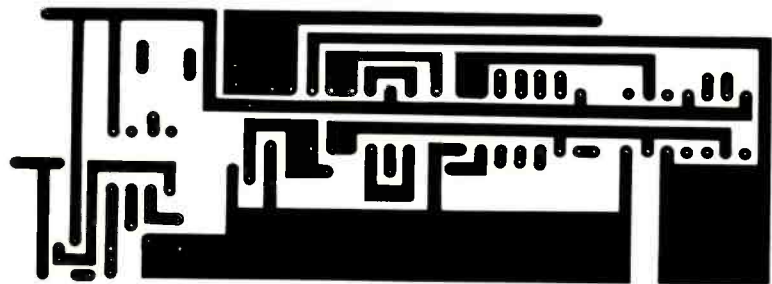

Fig. 3. Etching and drilling guide above; component layout below.
**Construction.** The circuit can be assembled on perforated board or on a pc board such as that shown in Fig. 3. Be sure to observe the polarities and coding on all components and use a low-power soldering iron. Note that there are three jumpers on the board.